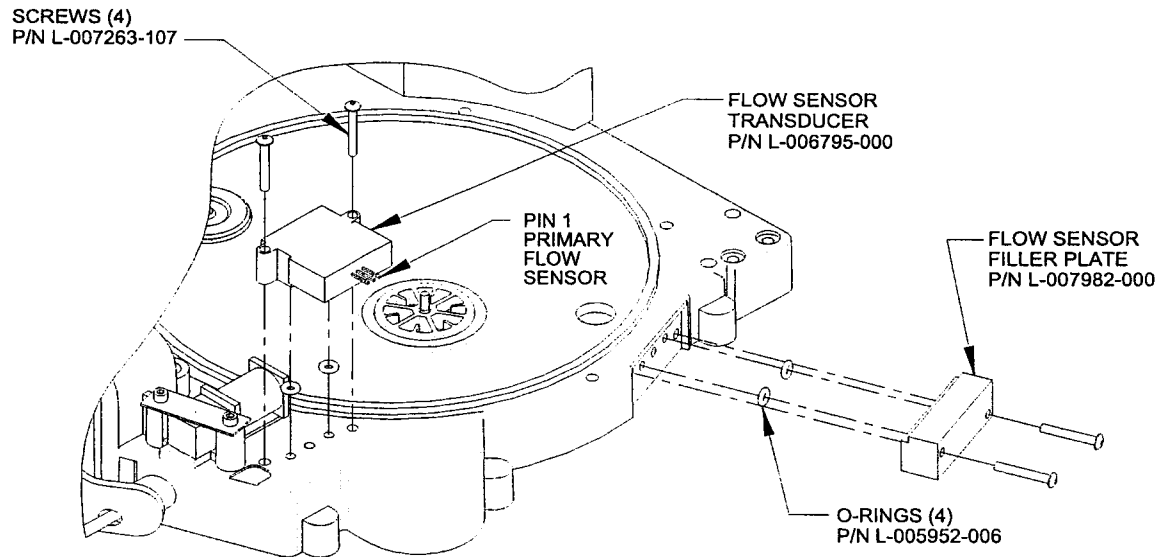

FIGURE 4-21.
2. Orient and install the flow sensor transducer near the PEEP valve. See Figure 4-21.
5. Install the flow sensor cable (P/N L-007819-000) onto the flow sensor, if necessary. The white lead wire on the 3-pin connector denotes pin 1. For matching pin 1 on the flow sensor, see Figure 4-21.
6. Install each of 2 O-rings (P/N L-005952-006) in each port of the flow sensor filler plate (P/N L-007982-000), and install the plate. See Figure 4-21.